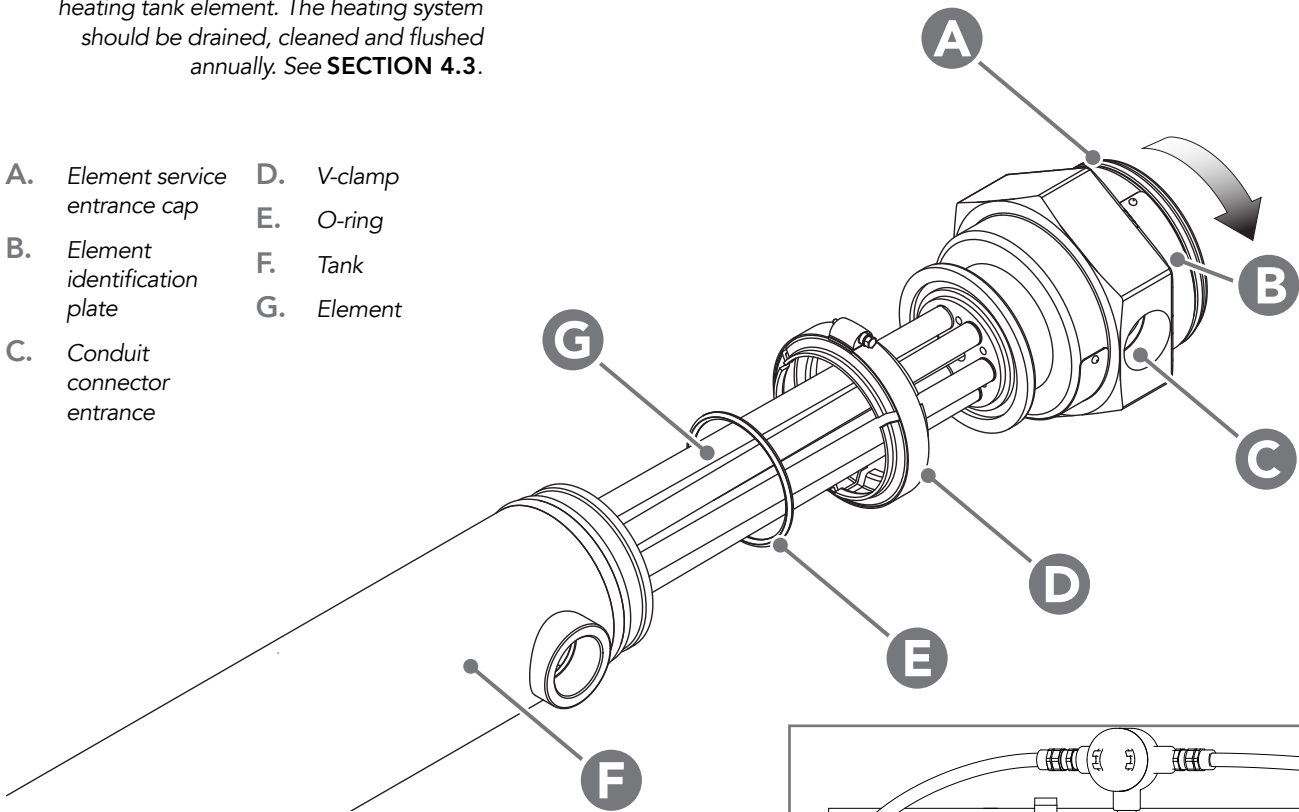

Figure 12. CLE/CLA, showing element conduit (H).
2. Close isolation valves. Drain the fluid from the heating tank. Locate the RTD that requires replacement. See Fig. 12.